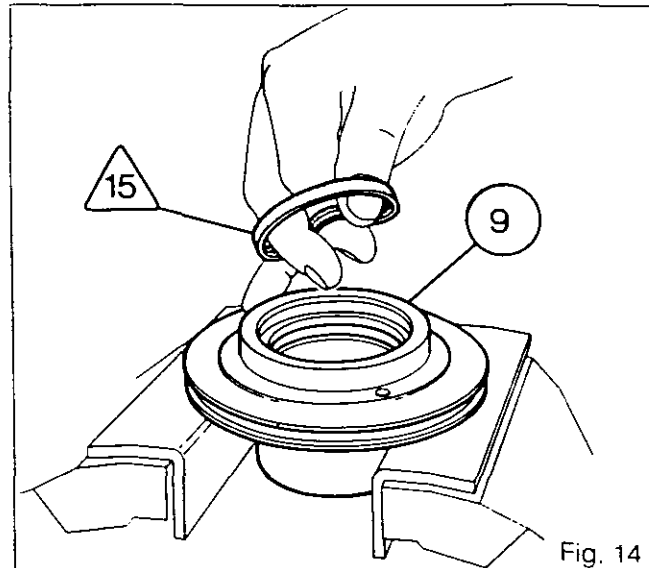

Fig. 14
22. Form the seal /15\ into a heart-shape (Fig. 14).